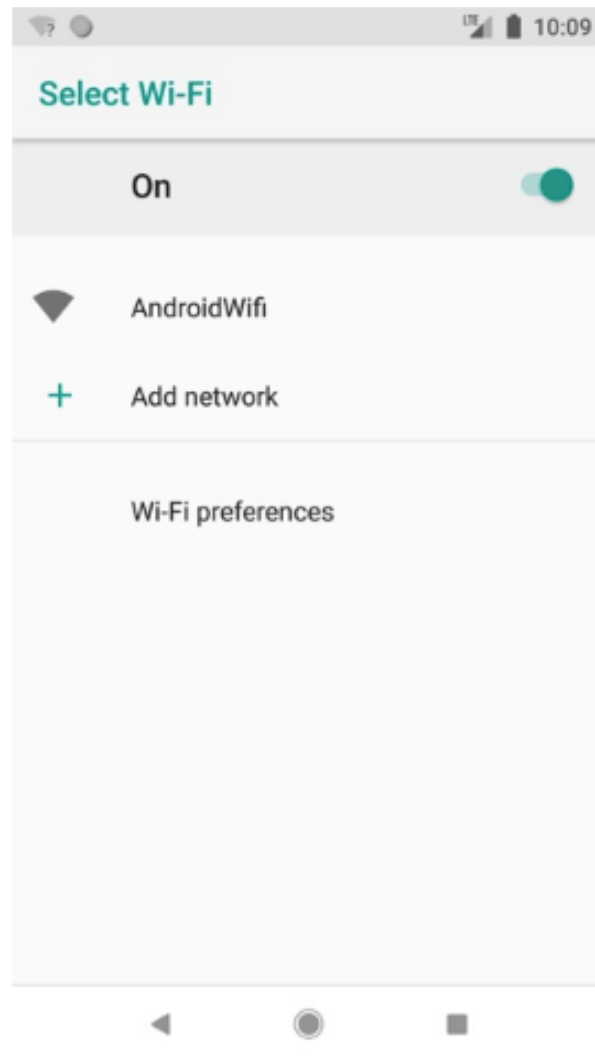

Fig. 34 – WiFi network selection screen.
3. **Select WiFi Network.** Use this screen to connect the device to the required WiFi network by selecting the network name (SSID) and entering the password. Once complete, press the back arrow to return to the settings menu. (see Fig. 34).